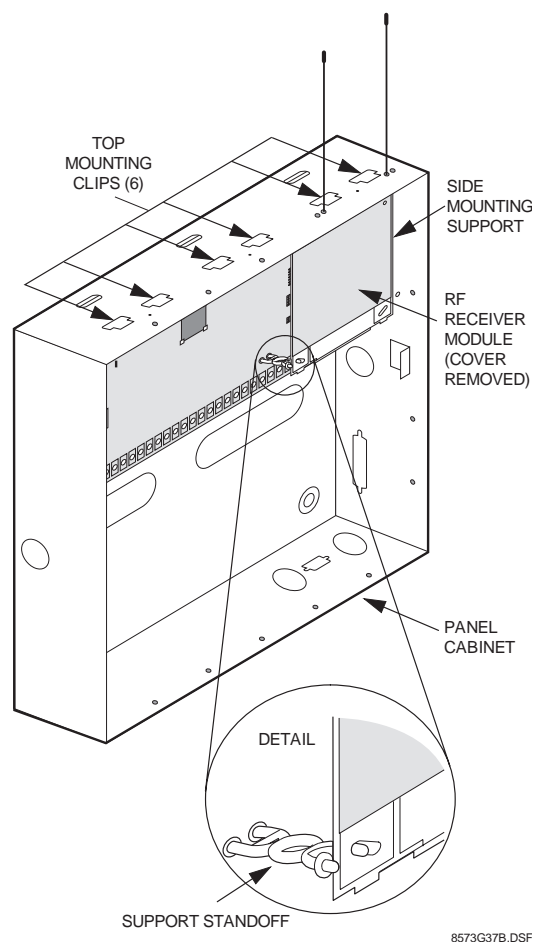

Figure 24. Mounting SuperBus 2000 Modules Inside the Cabinet (RF Receiver Shown)
- ❑ One SuperBus 2000 RF Receiver can be installed inside the cabinet, but it must be mounted on the right-hand side to accommodate the antennas (see Figure 24). Additional receivers must be installed outside the cabinet.
1. Mount the receiver inside the cabinet enclosure as shown in Figure 24.